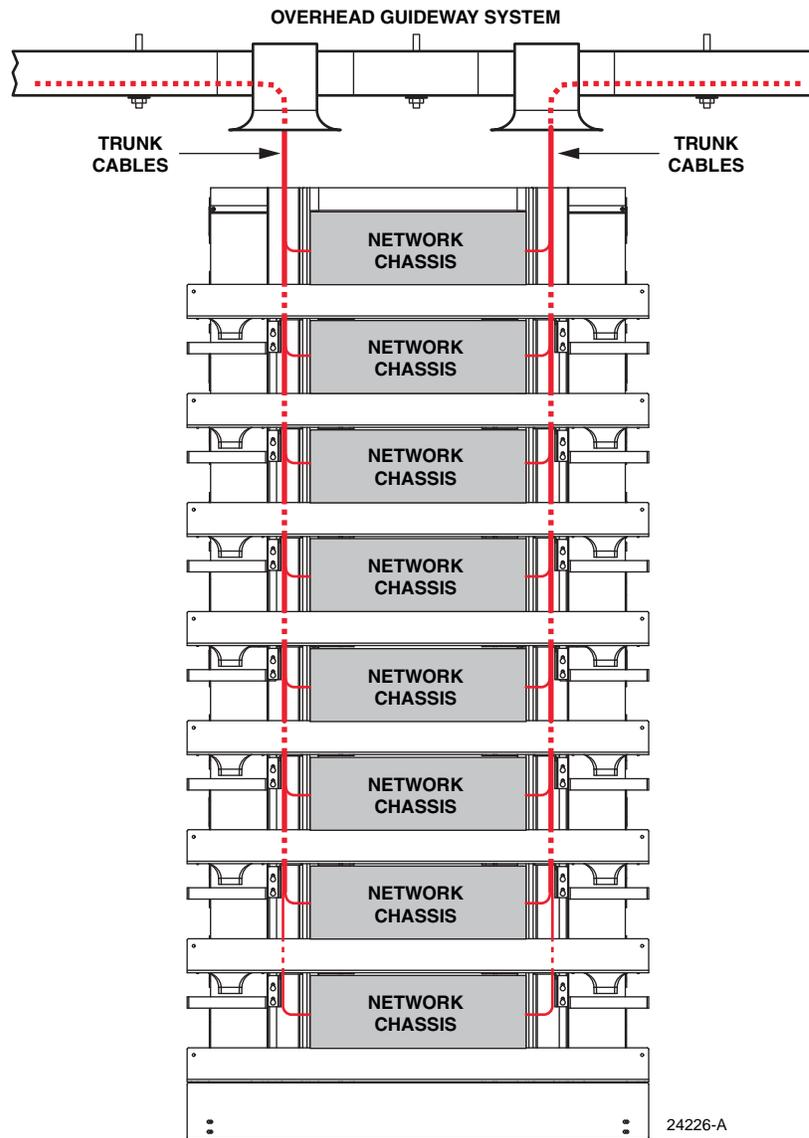

Figure 23. Overhead Trunk Cable Routing
2. Route cable into the rear vertical cable guide on the left or right side of the rack, when viewed from the rear (see Figure 23).